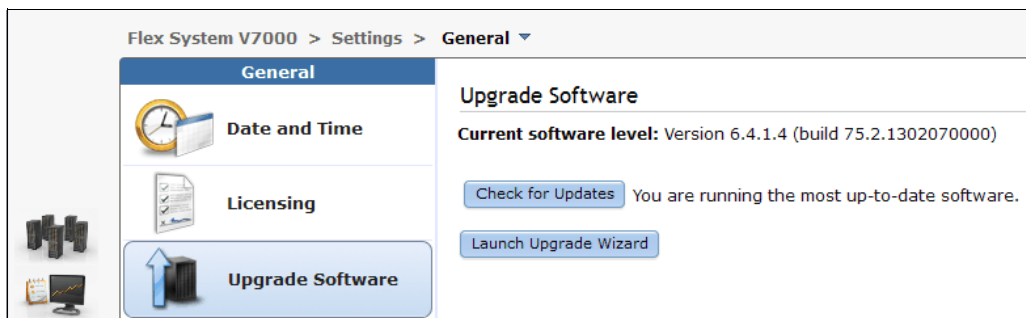
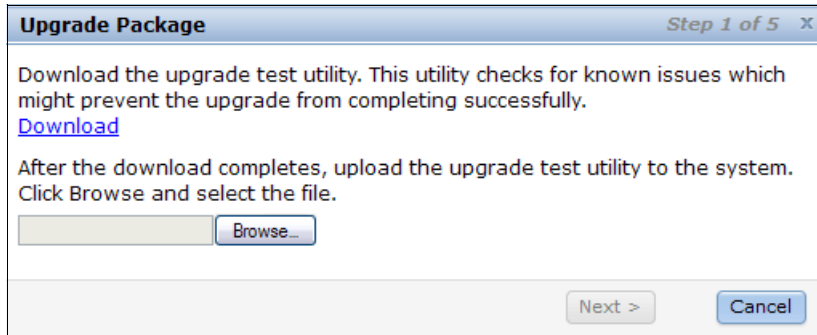

Figure 13-16 Check for software updates
Figure 13-17 Step 1 of 5 - Download upgrade test utility from the download web site
3. The current software level is displayed on the top of the menu and you might want to check for new updates before you start to upgrade. Go to **Upgrade Software** → **Check for Updates** to contact the upgrade server, as shown in Figure 13-16.
4. Click **Launch Upgrade Wizard** as shown in Figure 13-16 to download the upgrade test utility. This utility checks for known issues which might prevent the upgrade from completing successfully. Click **Download link** to download the test utility directly from the web server. If your web browser is behind a firewall or does not have Internet access, download the package manually to your PC or laptop, as shown in Figure 13-17.